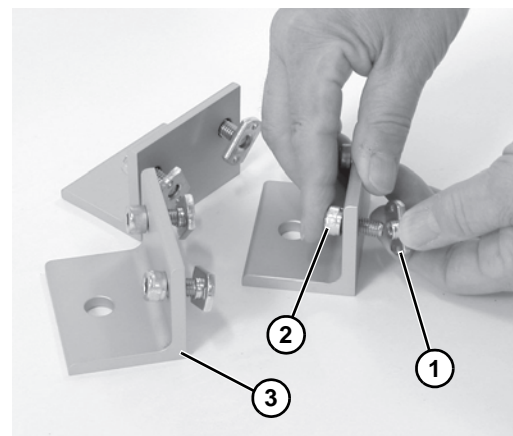

Figure 11
3. Place two socket screws (**Figure 11, item 1**) and nuts (**Figure 11, item 2**) on the three stand foot brackets (**Figure 11, item 3**). Do not tighten.